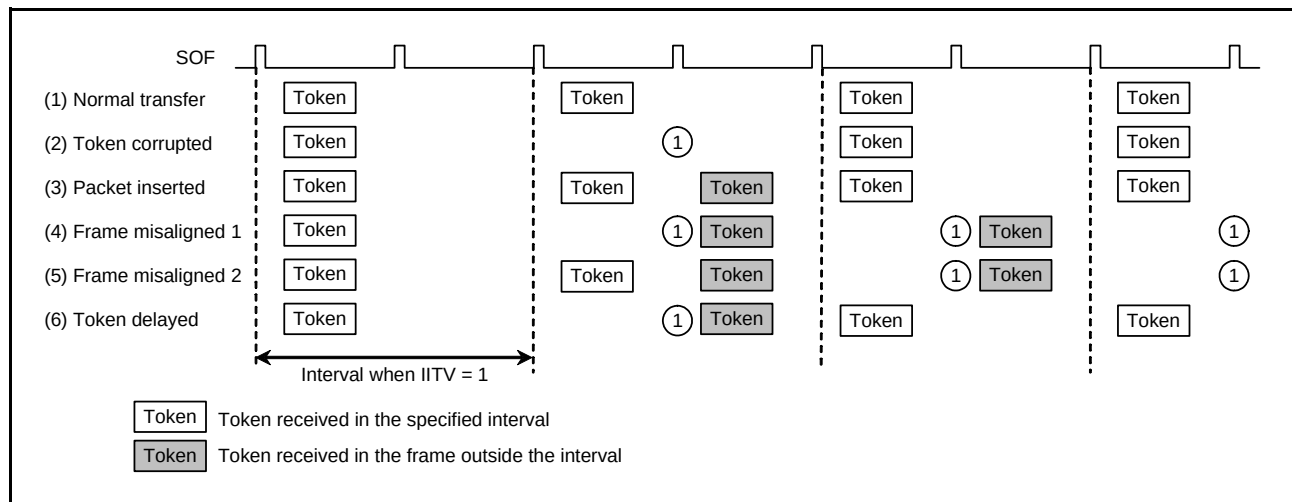

Figure 32.19 Example of Interval Error Occurrence When IITV[2:0] = 001b
Figure 32.19 shows an example of interval error occurrence in the USB. There are five types of interval errors, as shown below. The interval error is generated at the timing indicated by ① in the figure, and the buffer flush function is activated.